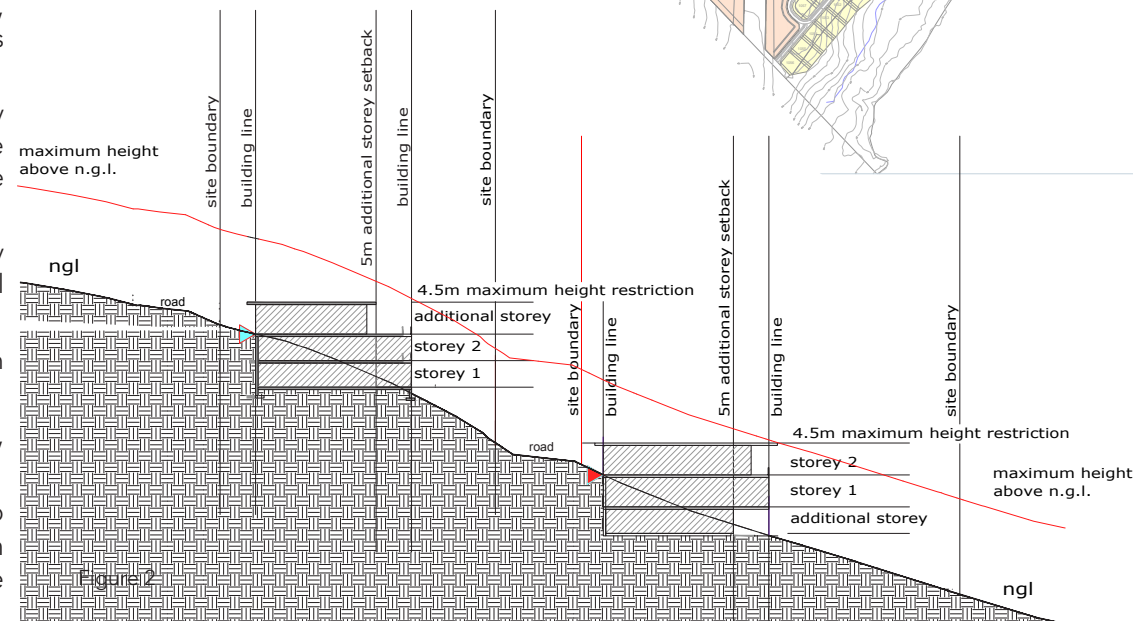

Figure 2
- Where an additional storey is permissible, the lowest or upper most storey must be set back a minimum of 5 metres from the primary facade line on all façades visible from a conservancy, as illustrated in Figure 2.